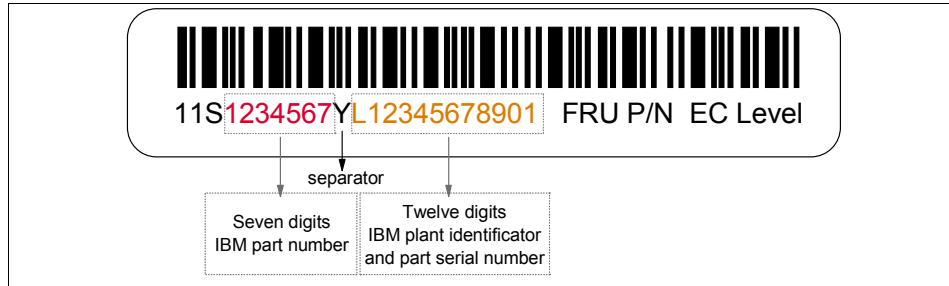

Figure 3-16 IBM barcode label
- ▶ All IBM memory is identified by an IBM logo and a white label printed with a barcode on top and an alphanumeric string on the bottom, created according to the rule reported in Figure 3-16 on page 61.